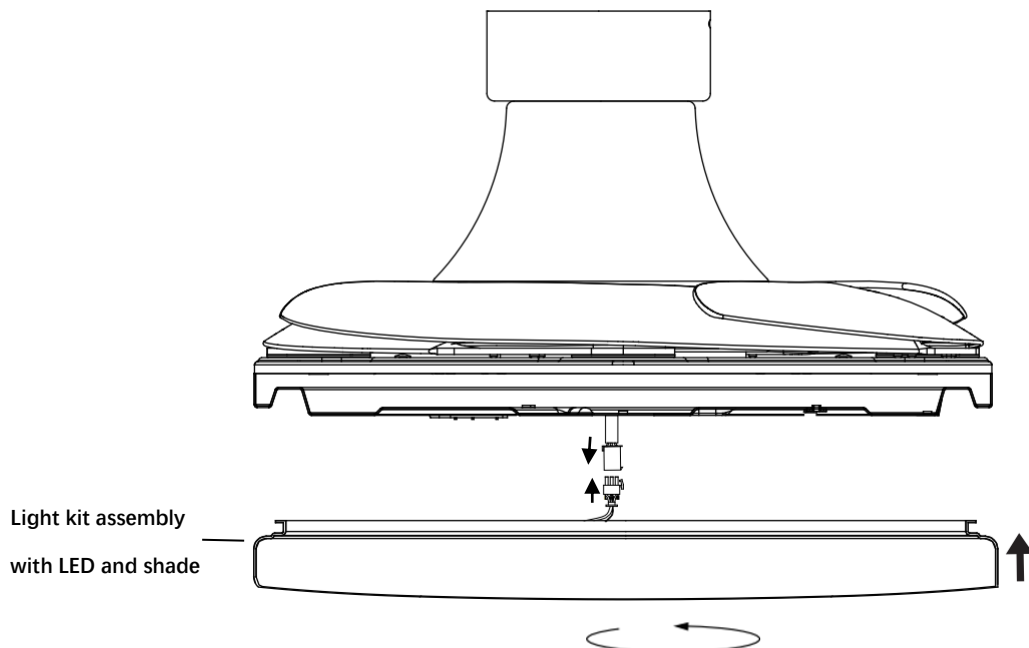

Fig. 7
4. Connect the quick connector to the light kit assembly with LED and shade. (Fig. 7)
5. Finally install the light kit assembly with LED and Shade to the light kit plate by turning it clockwise (Fig. 7)